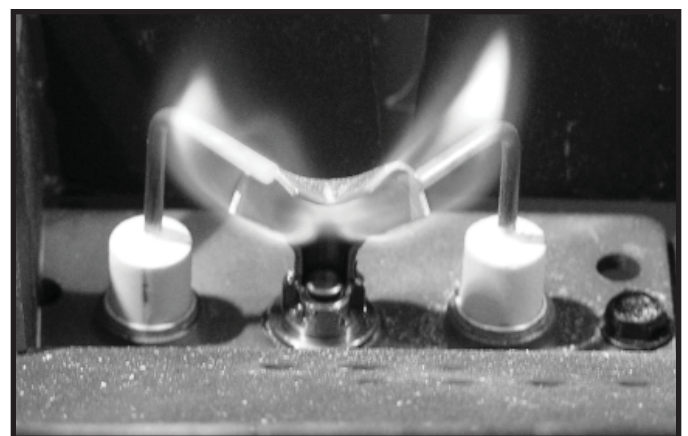

Figure 4.3 IPI Pilot Flame Patterns
- Inspect pilot flame pattern and strength. See Figure 4.3 for proper pilot flame pattern. Clean or replace orifice spud as necessary.